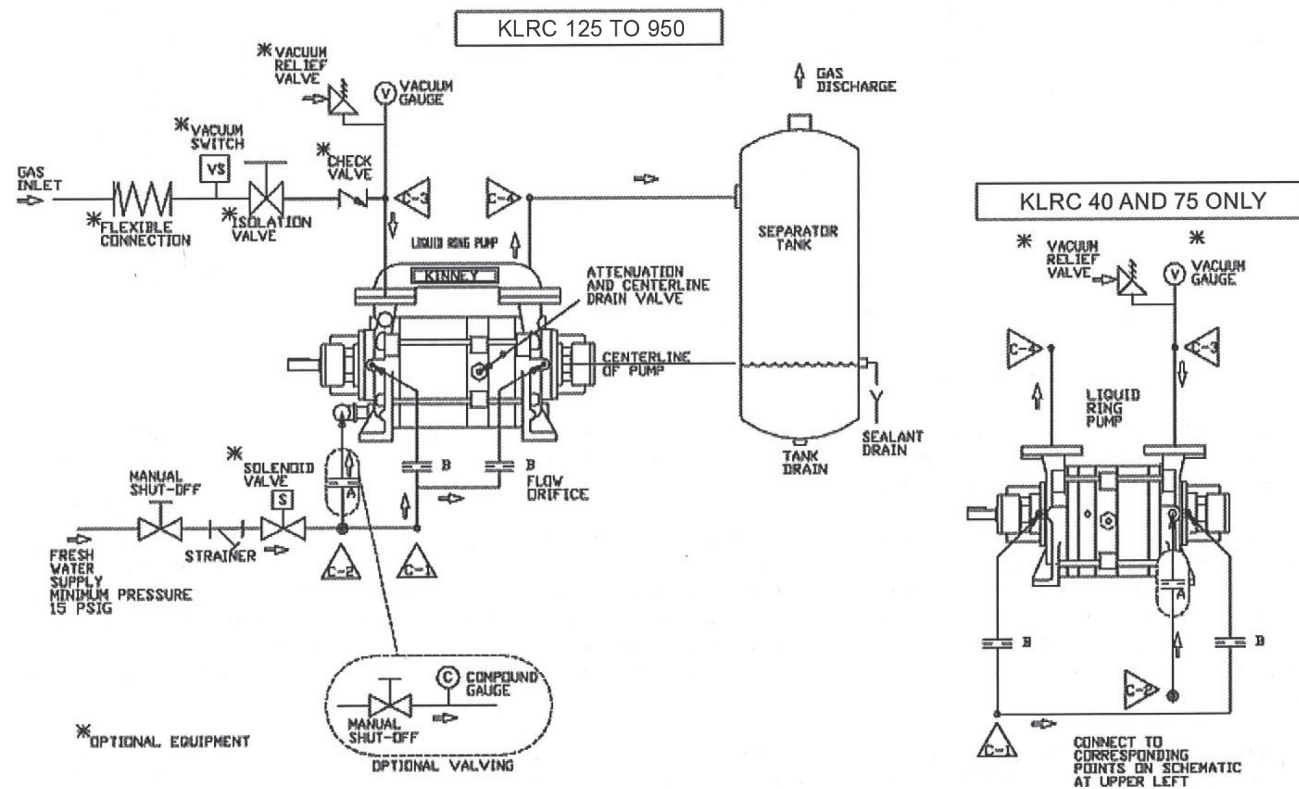
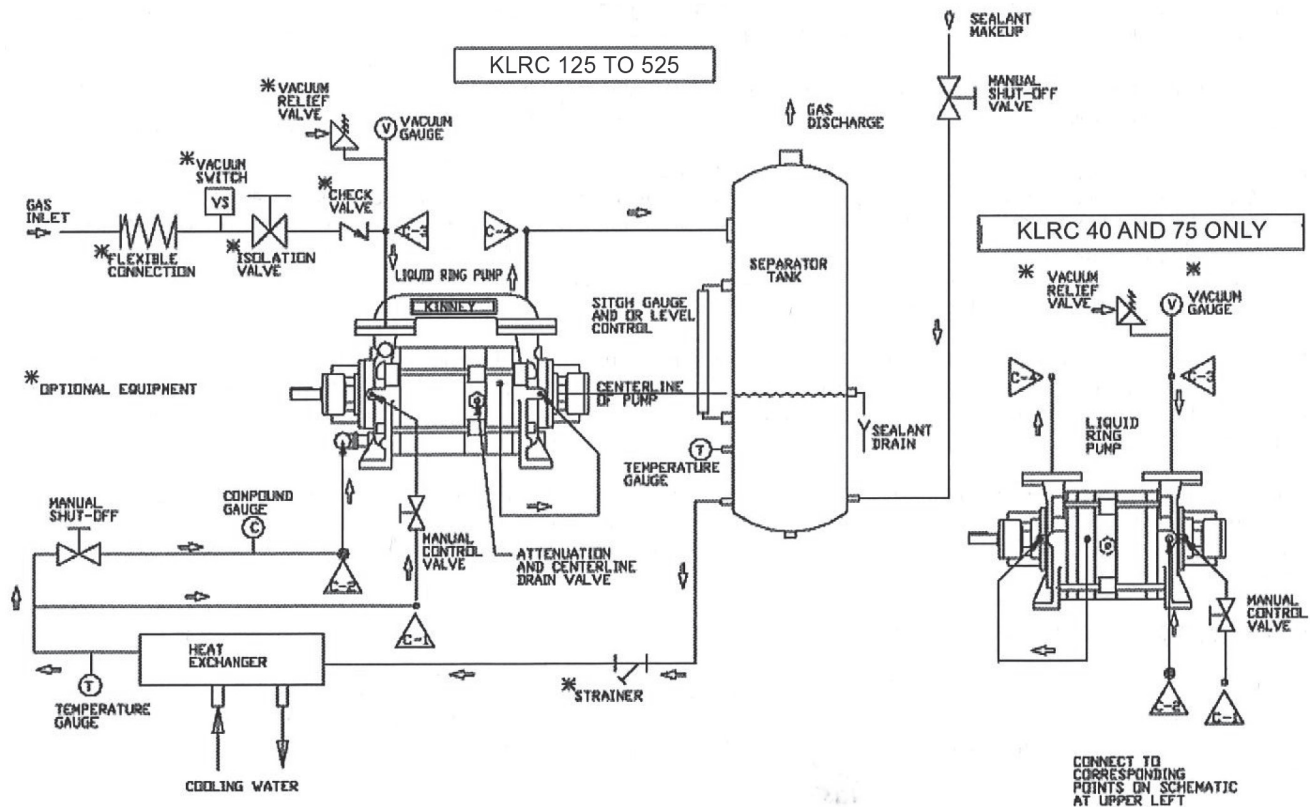

Figure 3-1 – Piping Schematic Once-Through Recovery System
Figure 3-4 – Piping Schematic: Full Sealant Recovery System without Circulating Pump
Figure 3-1 on page 7 through Figure 3-4 on page 10 illustrate sealant configurations:
- Once-Through (**Figure 3-1**)
- Full Recovery without Circulating (**Figure 3-4**)
See Specifications on page 19 for size of connections. **Figure 3-1 on page 7** through **Figure 3-4 on page 10** show the connection locations for suction and discharge gas, sealant water, and shaft seal cooling water of different pump models. Note that connections are different for KLRC-40 and -75 compared to KLRC-125 to -950. Also shown are the valves and gauges as they should generally be located for any of the piping arrangements. Piping must be no smaller than the pump connection and must be aligned, and may have to be supported, so as not to place a strain on the pump.
Sealant must be piped to the mechanical seals in order to keep the seal faces cooled and lubricated. The seals will fail if a suitable flow of sealant is not supplied. The sealant must be clean and free of particulates. Dirt or grit will cause the seal faces to wear and fail prematurely. Connect the sealant piping to the seals as shown in **Figure 3-1 on page 7** through **Figure 3-4 on page 10**.
The suction and discharge ports are distinguishable by arrows on the pump, and are also shown in **Figure 3-1 on page 7** through **Figure 3-4 on page 10**. Note that the discharge port on the KLRC-40 and KLRC-75 are at the shaft drive end, whereas on the KLRC-125 to KLRC-950 the discharge port is at the non-drive end. The discharge leg should not have more than 24 inches of elevation from the pump discharge flange. Too much elevation in this line would cause a buildup of back pressure, overload the motor, and reduce the efficiency of the pump. During initial operation, install a screen across the incoming port of the suction end casing to prevent abrasive particles from entering the pump. Remove any accumulation in the screen often enough to prevent restriction of gas flow. Remove the screen when particulate accumulation no longer occurs.